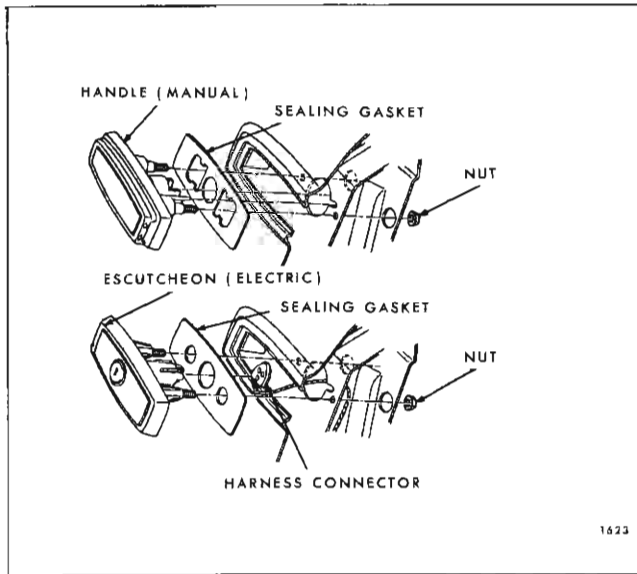

Fig. 1F29—Tail Gate Outside Handle Assemblies
2. Remove nuts securing handle to tail gate and remove handle and gasket (see Fig. 1F29).
NOTE: On electrical styles, disconnect wire harness from connector on escutcheon (see Fig. 1F29).
2. Remove screws securing support to tail gate and to body pillar and remove support (see Figs. 1F23 and 1F24).